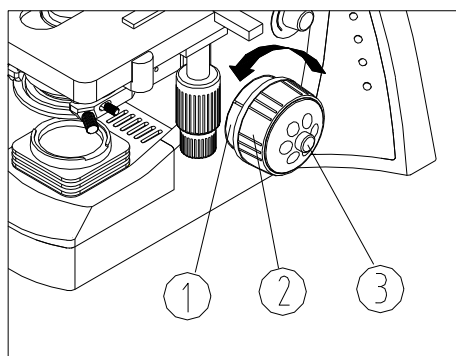

Fig. 23
3.2.8 Adjusting the tension adjustment collar (Fig.23)